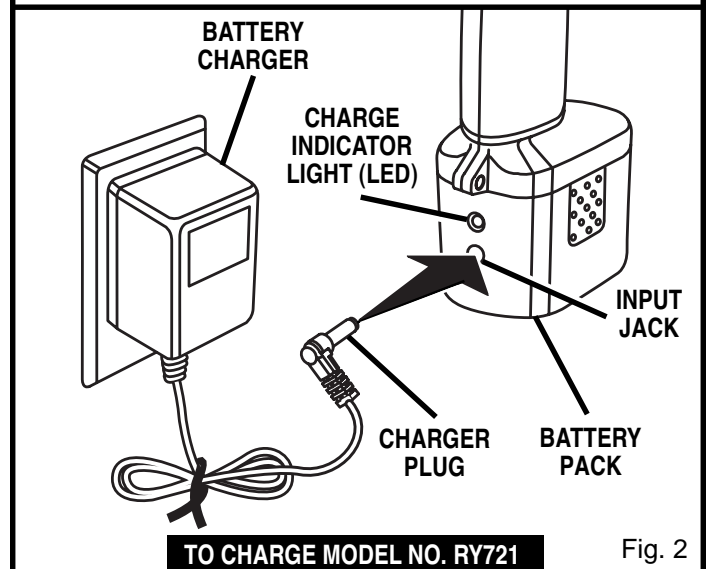

Fig. 2
- Connect charger to battery pack by inserting charger plug into input jack. See Figure 2.